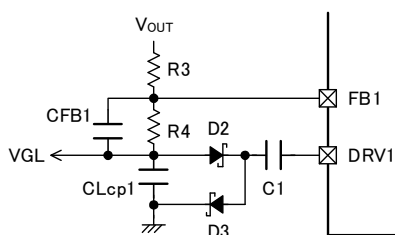

Figure 3.
- In case of  $V_{GL}$  voltage,  $V_{GH}$  voltage may overshoots or undershoots when power supply rise, please put speed-up capacitor (CFB1, CFB2) between FB1 pin and  $V_{GL}$ , FB2 pin and  $V_{GH}$ . (Please refer to figure 3 and 4.)